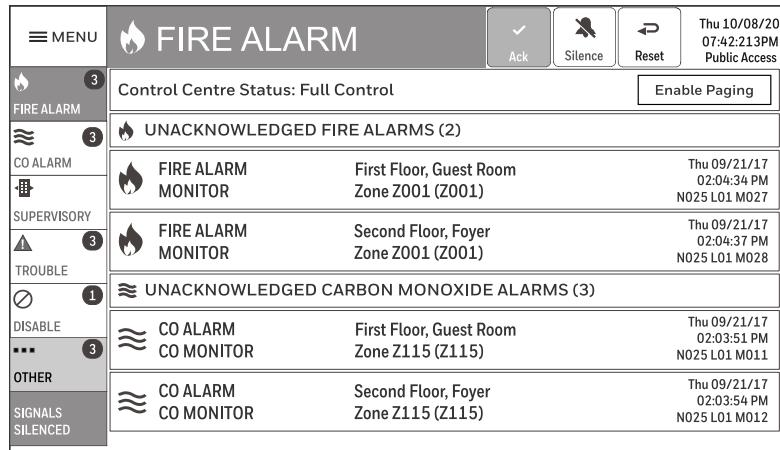

Figure 4-22: Control Center Status-Full Control
- **Full Control:** When all nodes in a display node's map are under its control or up-for-grabs, the display node will be in Full Control and display that status on the screen. Now in Full Control, when the user presses Ack, Silence, Reset, Drill or Alarm Signal On, all nodes under its control will be subject to the command. See Figure 4-22: Control Center Status-Full Control